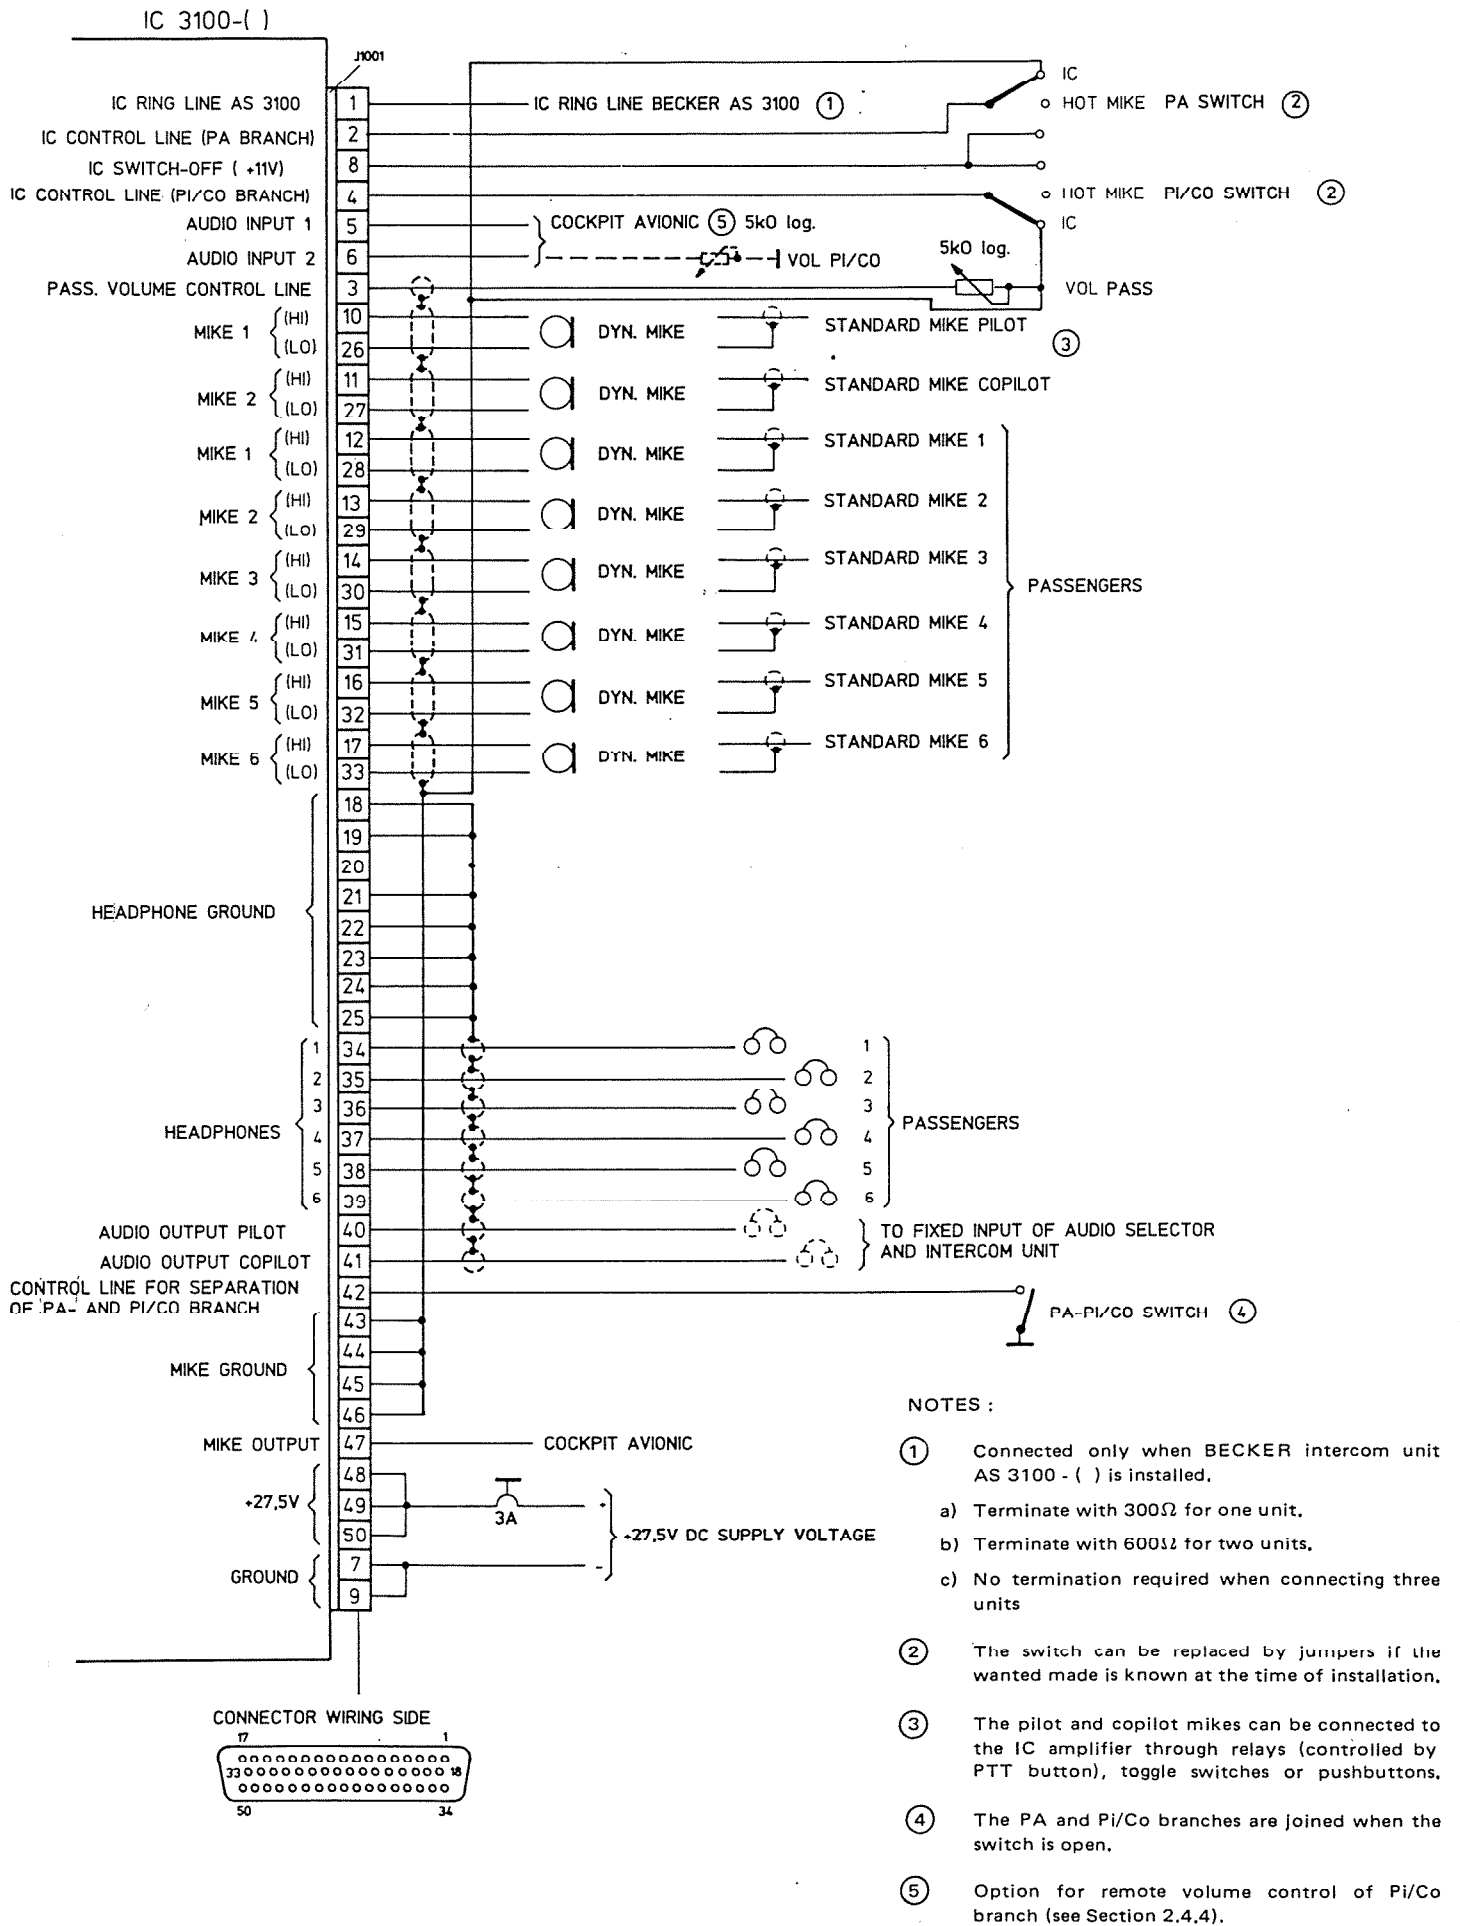

Fig. 2-2
| Fig. 2-2 | Wiring proposal for IC amplifier IC 3100 - () | | | 2-6 |
The IC amplifier should be protected by a 3 A fuse. Fig. 2-2 shows a wiring proposal for the IC amplifier.
4. Connect Pi/Co volume control lines to pin 6 of unit connector (see wiring suggestion Fig 2.2).